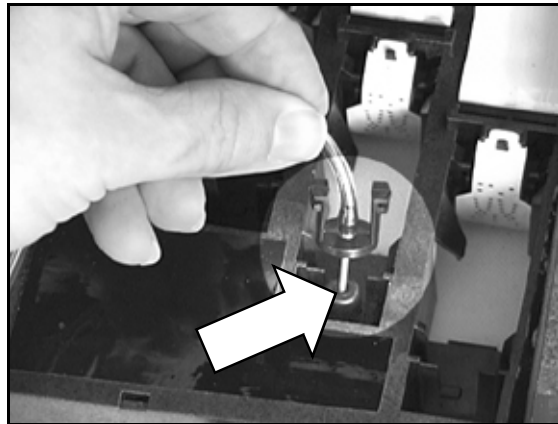

Fig. 3-9. Connecting the drain bottle tube to the supply tube
10. Insert the needle end of the drain tube into the nozzle end of the supply tube that is located in the printhead slot in the carriage assembly (see Fig. 3-9).